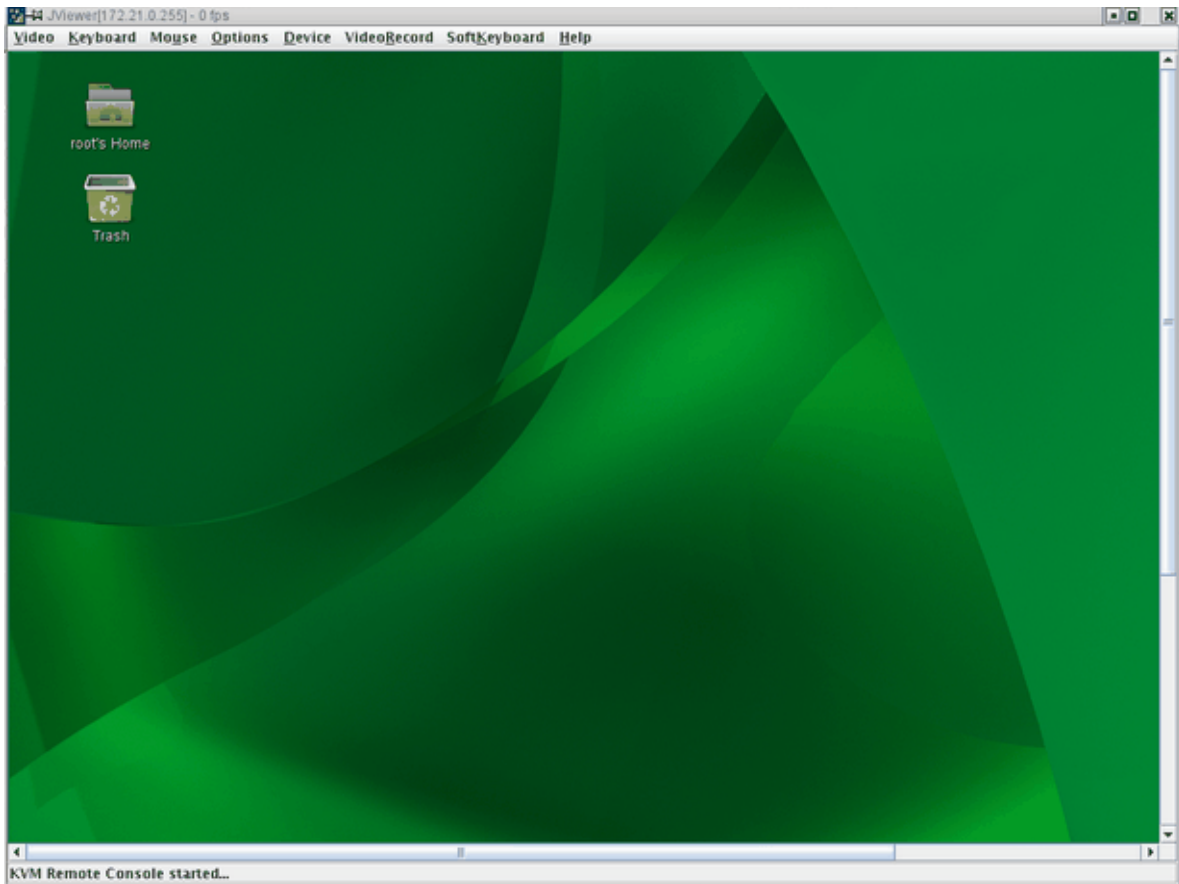

Figure 3-12 SUSE Linux Enterprise Server 11 (x86_64) Desktop Screen
15. The SUSE Linux Enterprise Server 11 (x86_64) desktop appears, as shown in Figure 3-12 on page 54.